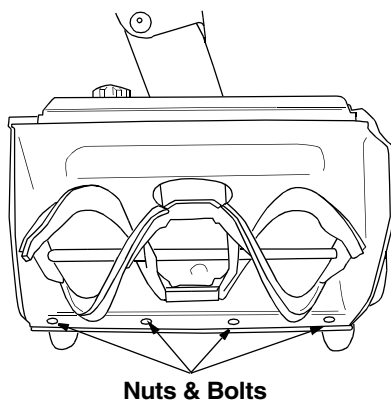

Figure 13
- To adjust, tip the snow thrower back so that it rests on the handle. Loosen the lock nuts and bolts which secure the shave plate to the housing. See Figure 13. Move the shave plate to desired position and retighten the nuts and bolts. Make certain all nuts and bolts are tightened securely.